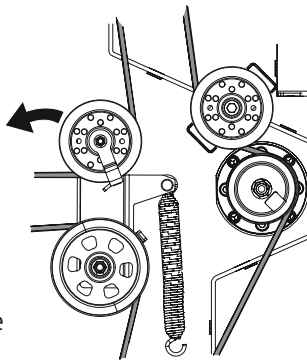

Figure 52
9. Pull the right side of the PTO belt rearward and place the narrow V-side of the PTO belt into the PTO pulley. See Figure 52.